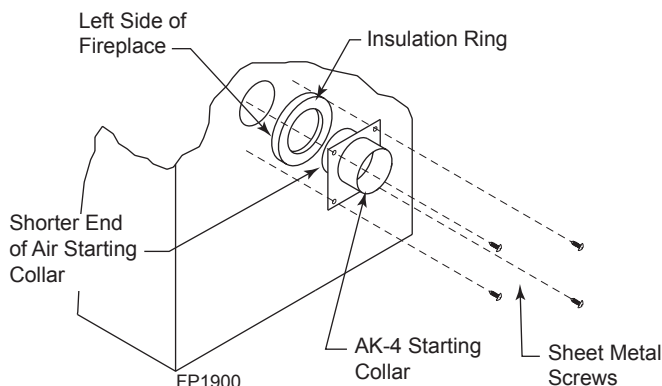

Figure 37 -
3. Place the starting collar (4") into the hole on the side of fireplace. Fasten it in place with the four sheet metal screws provided. *Figures 37 and 38*